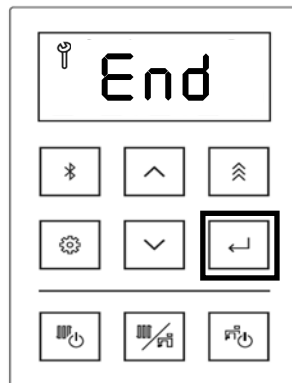

Figure 151
20. Push the Select button, and the display shows "End" (Figure 151).